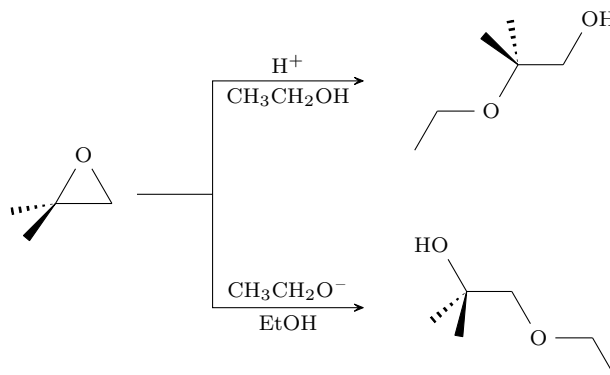

Figure 8.10: Acid- and base-catalyzed epoxide ring openings.
- In the acidic reaction in Figure 8.10, we form a formal 3° CC^+ . This intermediate is subsequently attacked by ethanol, which is then deprotonated.
- In the basic reaction in Figure 8.10, the ethoxide engages in an S_N2 reaction with the 1° epoxide position.